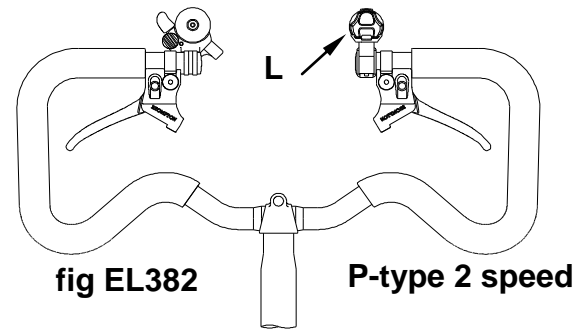

fig EL382
**P-type 2 speed (fig EL382)**, use the space at the end of the handlebar on the right.